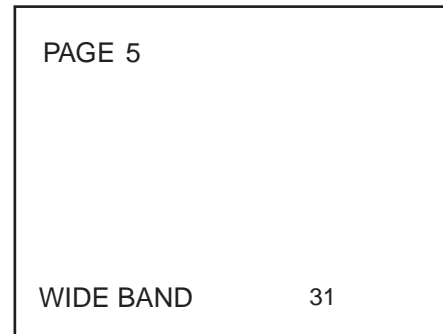

Fig. 5-3
1. Connect the oscilloscope to IC701 ① PIN
Using the volume keys on the jig remote controller, adjust the voltage width of IC701 ① PIN waveform to the minimum as in Fig 5-3.